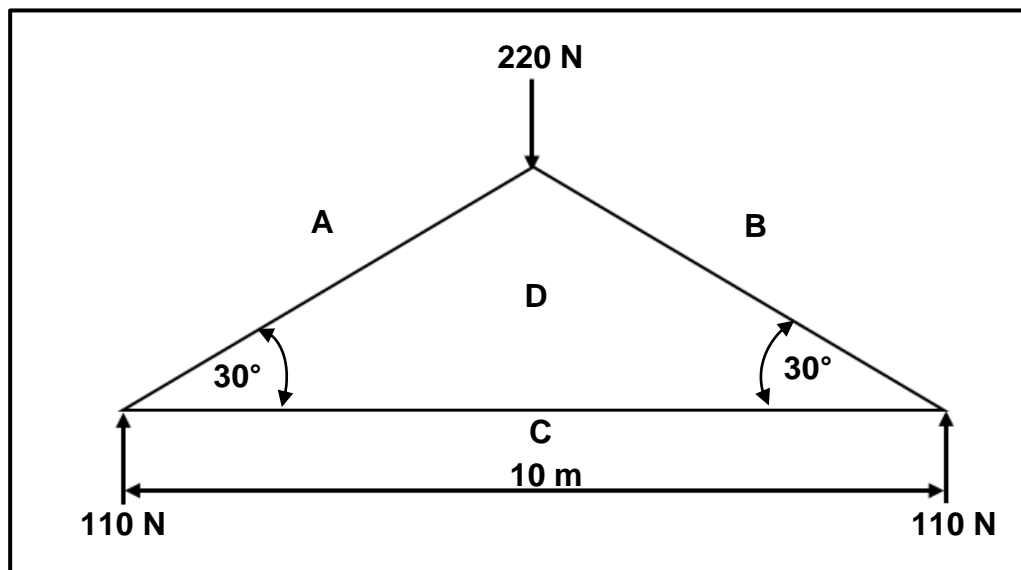

FIGURE 7.3
- 7.3 FIGURE 7.3 below shows a roof truss. Study the diagram and answer the questions that follow.